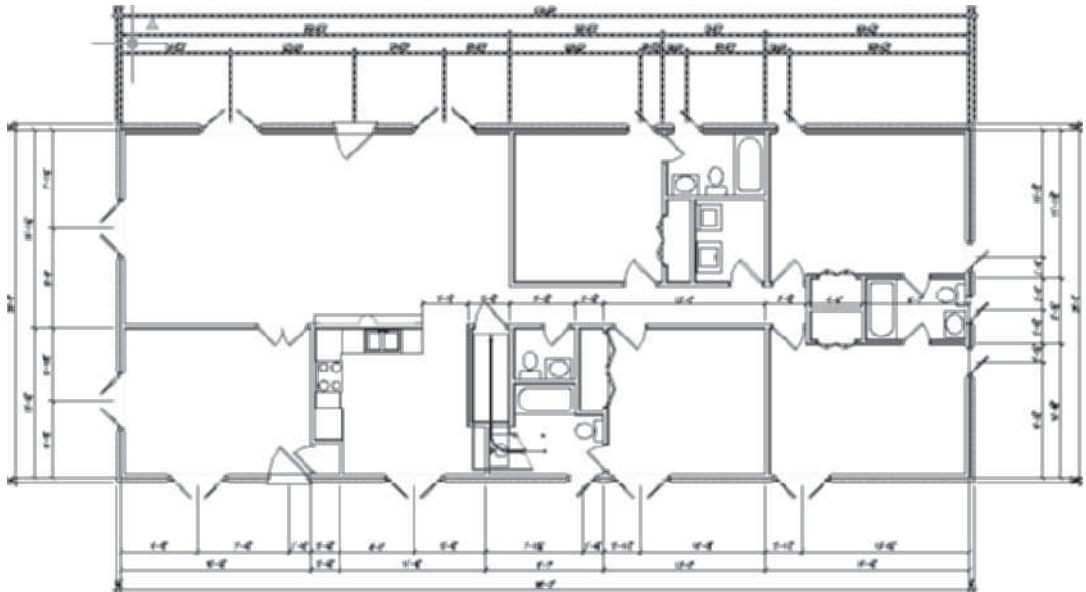

FIGURE 11.96 AEC Dimensions added to plan
14. Dimension the remaining exterior walls. Add extension lines to represent the outside of the stud as developed in step 12 for each corner as shown in Figure 11.96.